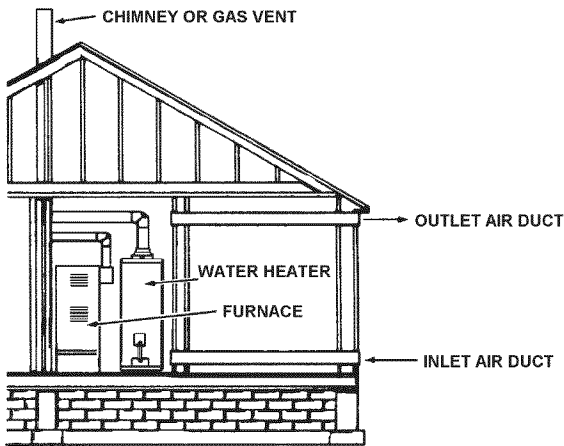

FIGURE 14.
- When communicating with the outdoors through horizontal ducts, each opening should have a minimum free area of 1 square inch per 2,000 BTU per hour (11 cm2/kW) of total input rating of all equipment in the enclosure, see Figure 14.
- When ducts are used, they should be of the same cross-sectional area as the free area of the openings to which they connect. The minimum short side dimension of rectangular air ducts should not be less than 3 inches (76.2 mm), see Figure 14.